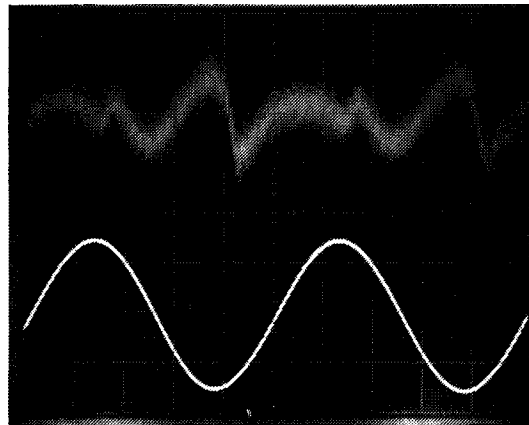

Fig. D-1: 100HZ DISTORTION RESIDUAL
- a) Restore the THRESHOLD control to "0". Set the oscillator frequency to 100Hz, and adjust the oscillator output level until the 414A G/R meter reads 20dB G/R. Measure the THD at the 414A output, and verify that it is less than 0.05%. Observe the distortion output from the THD analyzer on a scope, and verify that the distortion residual looks like Fig. D-1.
The shape of the distortion residual provides a good indication of whether the timing module and other circuitry within the control loop are operating properly. If the distortion residual which you observe is significantly different than the Fig. D-1 (particularly if accompanied by audible problems with sound quality), we recommend returning the 414A for factory service, as it is usually impractical to diagnose and repair subtle control circuitry problems in the field.